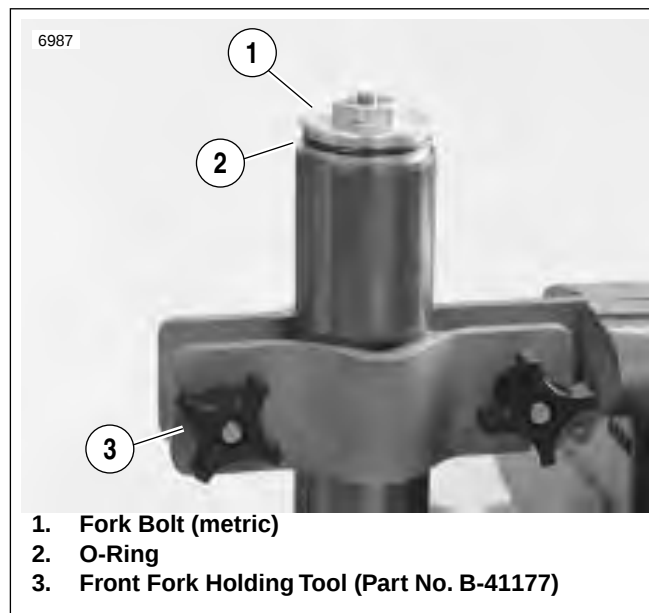

Figure 2-46. Fork Bolt
1. See Figure 2-46. Loosen the fork bolt (1) (metric) from the outer tube and slightly compress the fork leg. Remove the fork bolt with attached O-ring (2).
18. Set the spring seat stopper (3) between the spring collar (2) and the locknut. Remove the FRONT FORK SPRING COMPRESSOR.
19. See Figure 2-46. Apply oil to a **new** O-ring and install it into position on the fork bolt. Install fork bolt. Tighten to 22-29 ft-lbs (30-39 Nm).